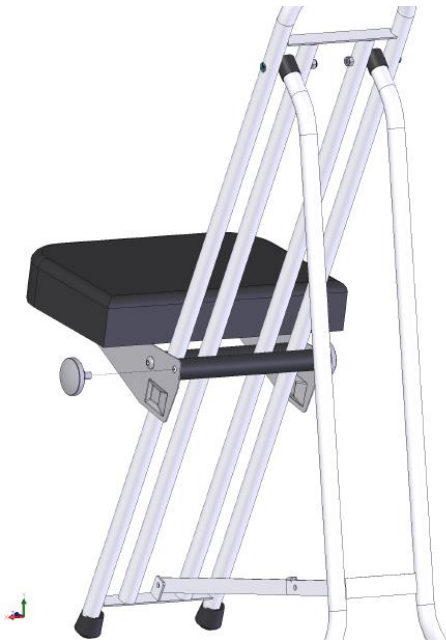

Figure 4
Open the chair as shown (Fig 4.). Install the seat as shown and replace the rear bumper. Re-install the (2) two knobs and hand tighten only. DO NOT USE WRENCHES.